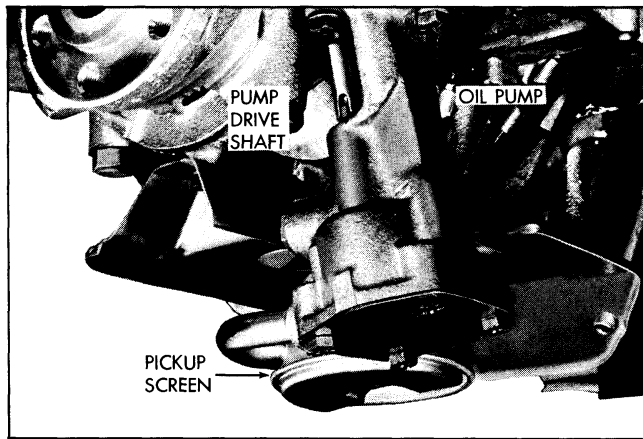

Fig. 6-54 Oil Pump and Oil Pump Drive Shaft
2. Remove oil pump attaching bolts while holding oil pump in place. Carefully lower oil pump away from block with one hand while removing oil pump drive shaft with other hand (Fig. 6-54).